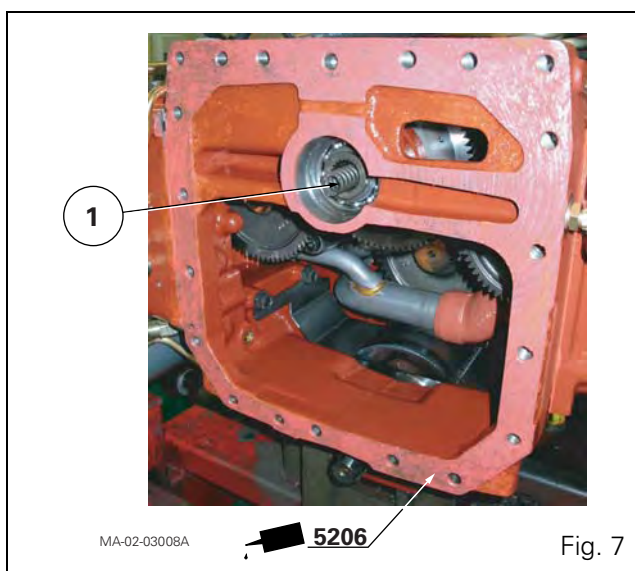

Fig. 7
34. Position the spring (1) in the PTO clutch (Fig. 7).